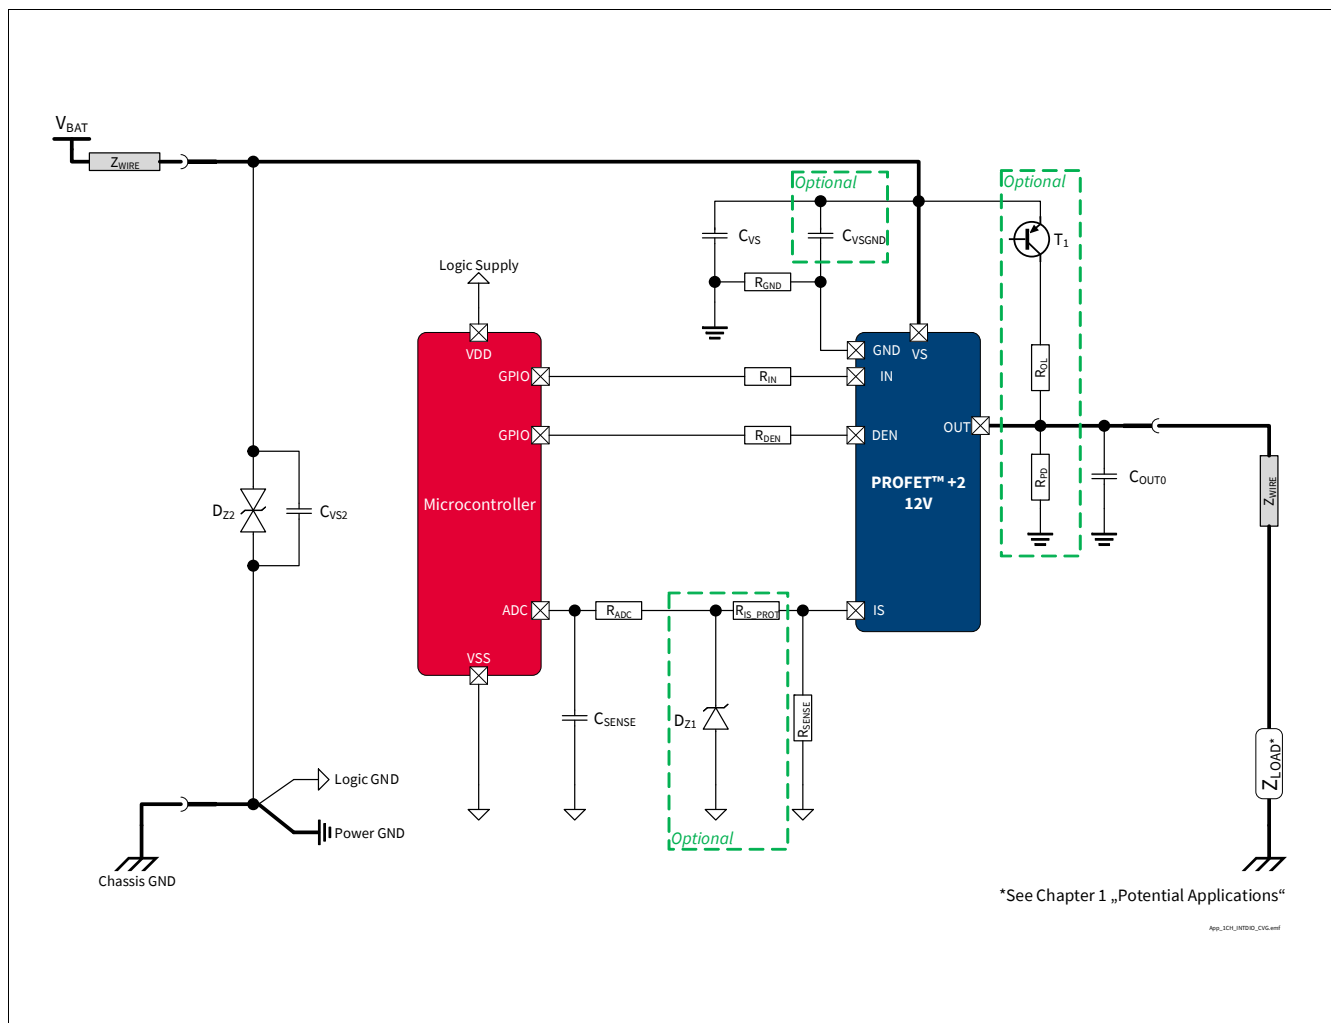

Figure 42 **BTS7010-1EPA Application Diagram**
1.02 , 2019-10-15	P_8.7.2.1, P_8.7.2.7, P_8.7.2.8 updated (added in Note or Test Condition: link to Figure 25) P_7.5.2.4, P_7.5.2.5 updated (added in Note or Test Condition: DEN = “low”; link to Figure 19) P_7.5.2.12 updated (added in Note or Test Condition: see Figure 21) P_8.7.2.6 updated (added in Note or Test Condition: see Figure 26) P_9.7.2.1 updated (added in Note or Test Condition: See Figure 34) P_9.7.2.6 updated (Min./Max.: -45%/+45% → -34.5%/+34.5%) P_9.7.2.9 updated (Min./Max.: -38%/+38% → -25.5%/+25.5%) P_9.7.2.12 updated (Min./Max.: -34%/+34% → -22.5%/+22.5%) P_9.7.2.15 updated (Min./Max.: -22%/+22% → -13.0%/+13.0%) P_9.7.2.17 updated (Min./Max.: -9%/+9% → -8.1%/+8.1%) P_9.7.2.19 updated (Min./Max.: -6%/+6% → -4.6%/+4.6%) P_9.7.2.21 updated (Min./Max.: -5%/+5% → -3.9%/+3.9%) P_7.5.2.11 updated (added in Note or Test Condition: see Figure 19) P_4.2.2.6 updated (Max.: 13.5 mJ → 17 mJ) Figure 1, Figure 42 updated Chapter 1 updated (or LED equivalent → or equivalent electronic loads (e.g. LED modules)) P_4.3.0.7 added Table 23 updated Chapter 5.1 updated (added: see Chapter 10 for the complete application setup overview)